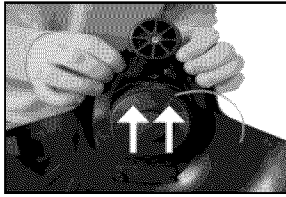

Figure 5 - Slide cutting guard forward
3. Slide cutting guard forward. (See figure 5)